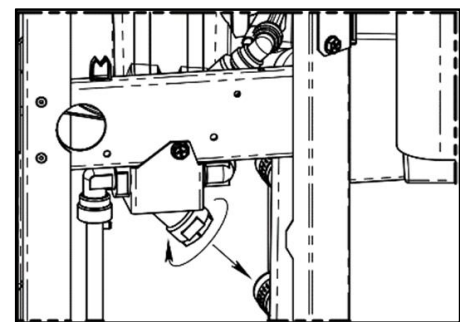

Figure 5: Strainer cleanout
1. Remove the (4) screws holding the skirt to the bottom of the frame. Then remove the skirt by sliding the skirt away from the cooler.
5. Install the new filter by pushing up and turning counterclockwise (as viewed from above). Note the label orientation in Figure 5.